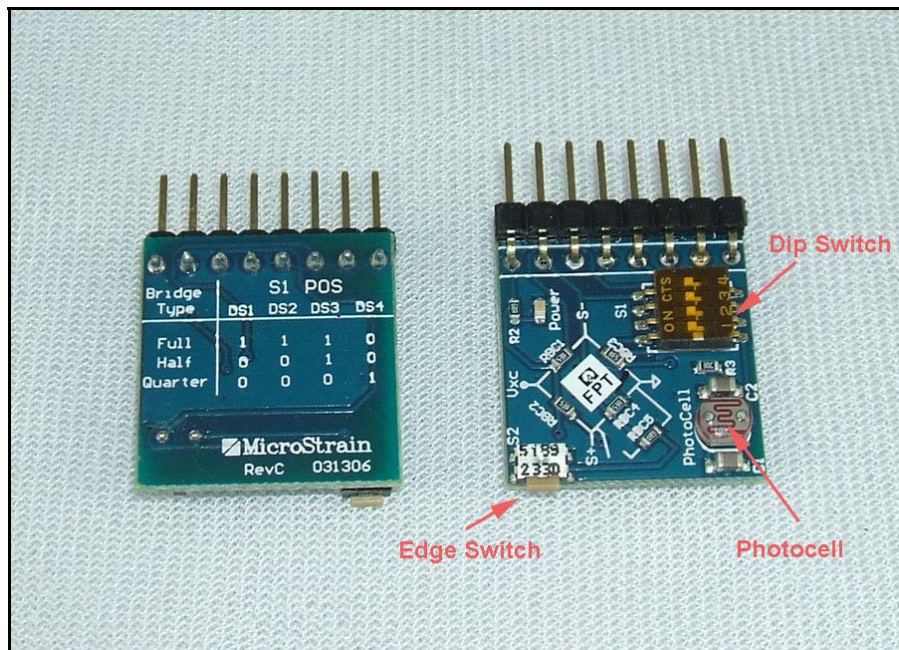

Figure 1
- Set switches 1, 2 and 3 to ON and switch 4 to OFF. As you view **Figure 1**, switches 1, 2 and 3 would be to the left and switch 4 would be to the right.